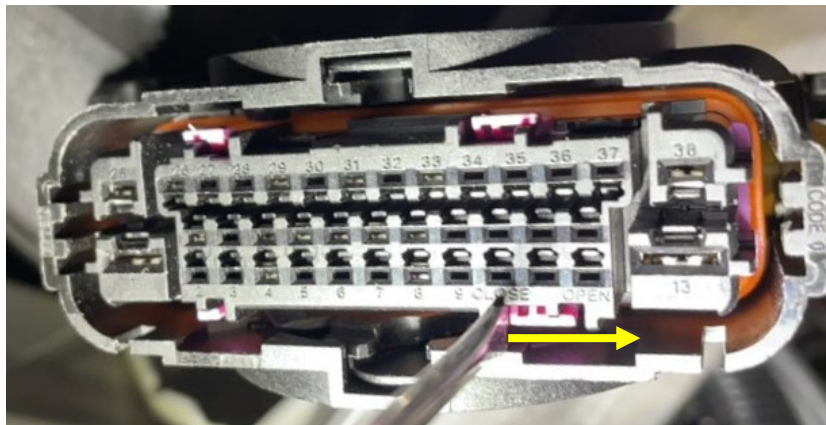

Figure 9
10. Use a pick to slide the large locking tab of connector X151 from “CLOSE” to “OPEN” (Figure 9).